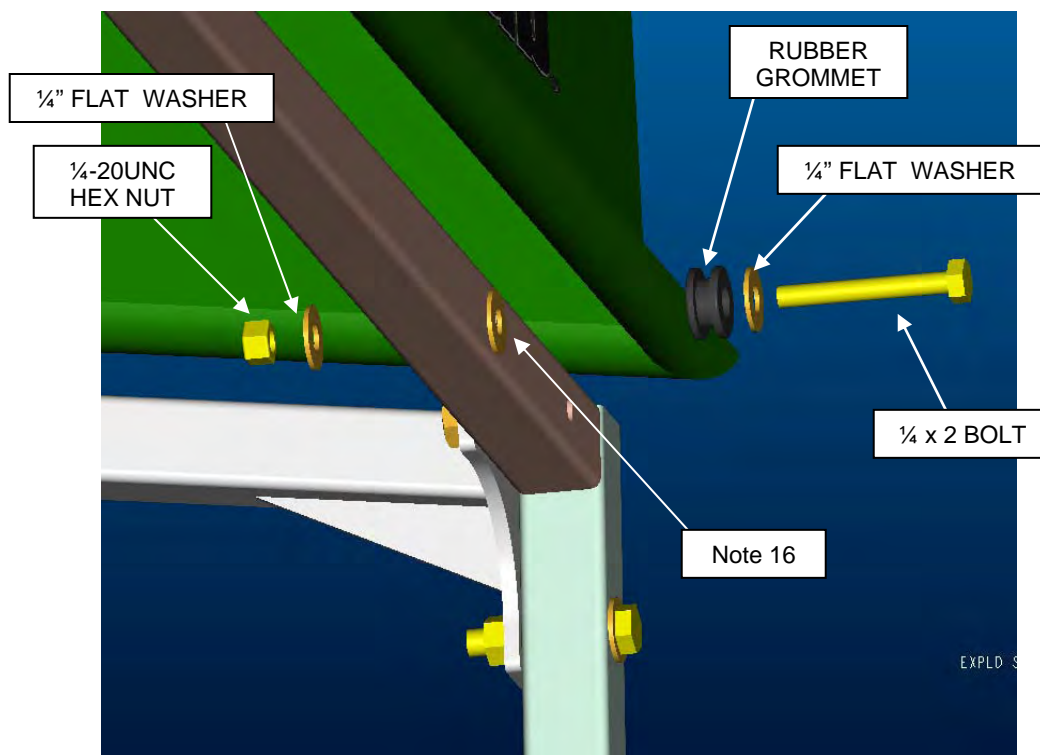

Figure 9
14. Locate (4) four rubber grommets and install them into each hole on the sides of the sunshade roof.
16. Align all (4) four roof holes with the side frame holes. Secure at each location using (1) 1/4" x 2.0" long bolts, (3) 1/4" flat washers and (1) 1/4-20 nylock nuts. Make sure one 1/4" flat washer is between the rubber grommets and the upper frame tubes at each connection. Tighten the 1/4" fasteners to slightly compress the rubber grommets. See Figure 9.